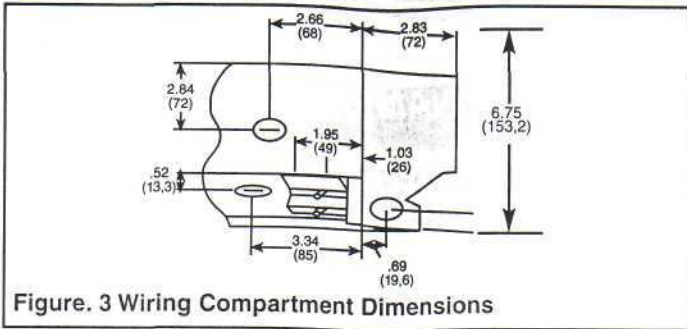

Figure 3 Wiring Compartment Dimensions
**NOTE:** Make sure the caution label with the word "TOP" is at the top of the heater. For most efficient operation locate heaters along outside wall under windows. Position heater so it can be secured to wall stud. Power cable must enter heater through one of the knockouts provided in wiring compartment. See Figure 3.
5. Loosen screw in built-in cable clamp or remove desired knockout from heater wiring compartment (Figures 3 and 4). Install power cable into wiring compartment allowing at least 6in(153mm) of cable for connection to heater. To install two power cables using the built-in cable clamp, bend tab covering second hole up and back to rear wall of wiring compartment. If built-in cable clamp is not used, install approved cable connector (not included) in desired knockout.